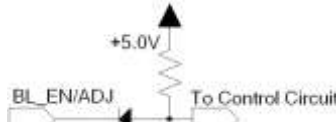

Fig.1 Terminal circuit
*3: Terminal circuit (Fig.1) :